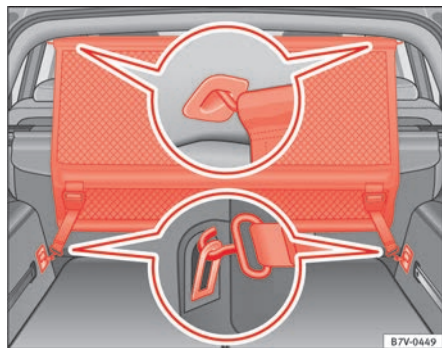

Fig. 94 In the luggage compartment: Install the net partition behind the second row of seats.
- Hook in the net partition on the left-hand side roof support ⇒ fig. 94 ①.
- Secure the net partition hooks into the straps in the front of the luggage compartment ② then tighten them. ▶